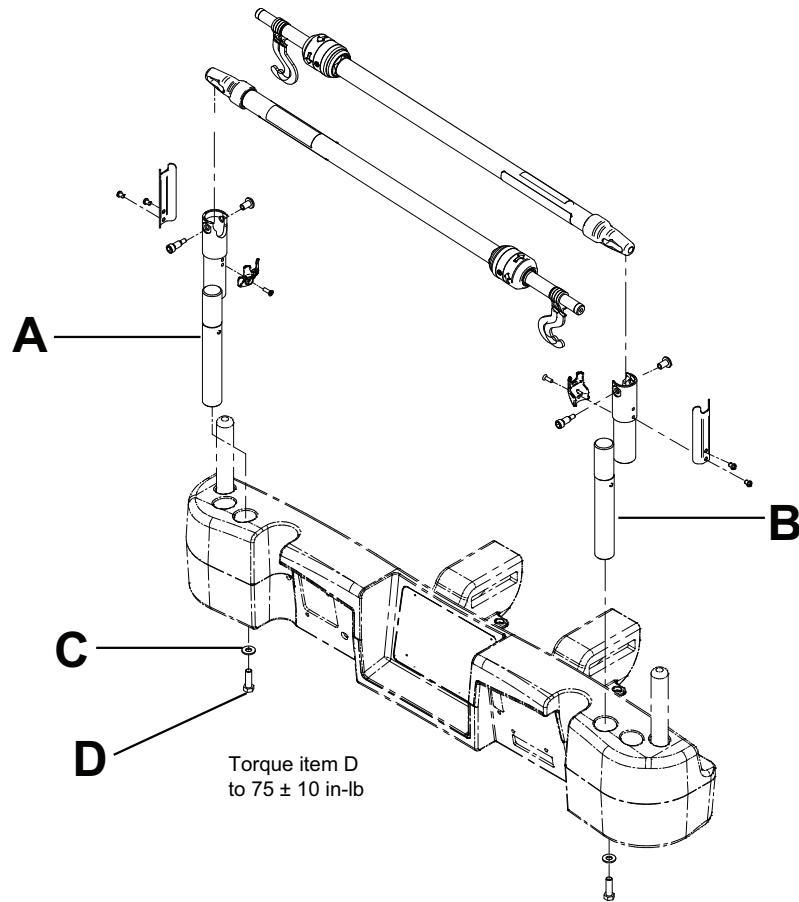

Figure 105 – Dual Havasu two stage IV pole
1. Using a 3/8 in. drive ratchet and a 1/2 in. socket, install one washer (C) and one bolt (D) to secure the IV pole into the socket at the head end of the product (A) (Figure 105).
2. Using a 3/8 in. drive ratchet and a 1/2 in. socket, install one washer (C) and one bolt (D) to secure the IV pole support into the socket at the head end of the product (B).